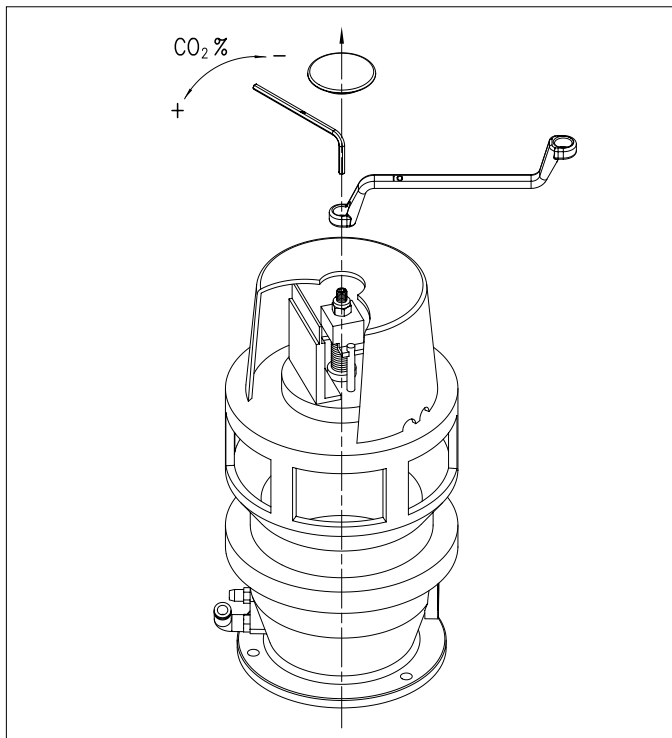

Fig. 24 Adjustment point CO₂% / O₂% IMS-system
- 16f. Check CO₂-percentage (O₂-percentage) against the table. Adjust if necessary using the adjustment screw on the IMS-system (see Fig. 24). Is the CO₂-percentage too high (O₂-percentage too low), turn the adjustment screw to the right, simultaneously holding the nut with a ringwrench. Is the CO₂-percentage too low (O₂-percentage too high), turn the screw to the left.